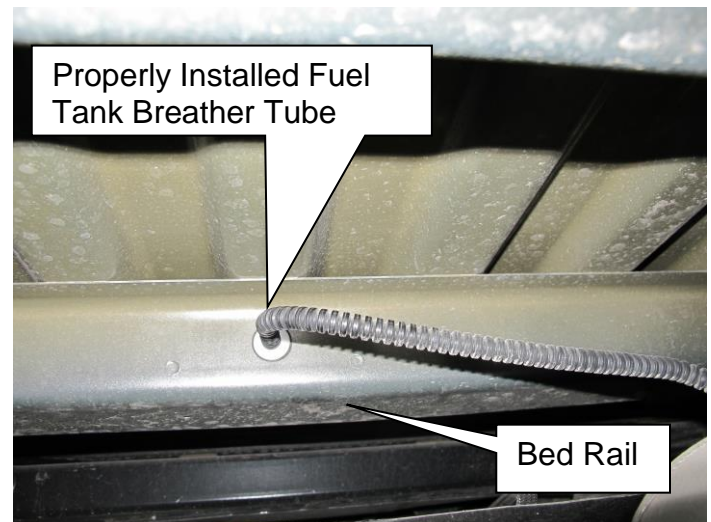

Figure 2
- Figure 2 shows the breather tube properly installed to the bed rail.
4. Is the fuel tank breather tube present and properly installed in the bed rail as shown in Figure 2?